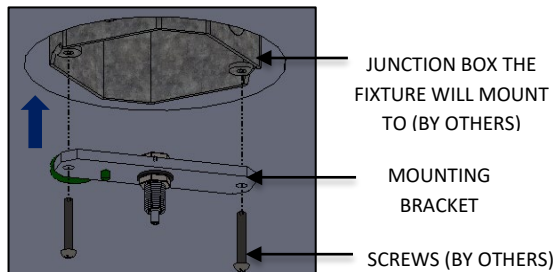

FIG. 17 - MOUNTING BRACKET
- Assemble the MOUNTING BRACKET ASSEMBLY to the JUNCTION BOX the fixture will mount to (by others) with screws (by others) as shown in FIG. 17 below.